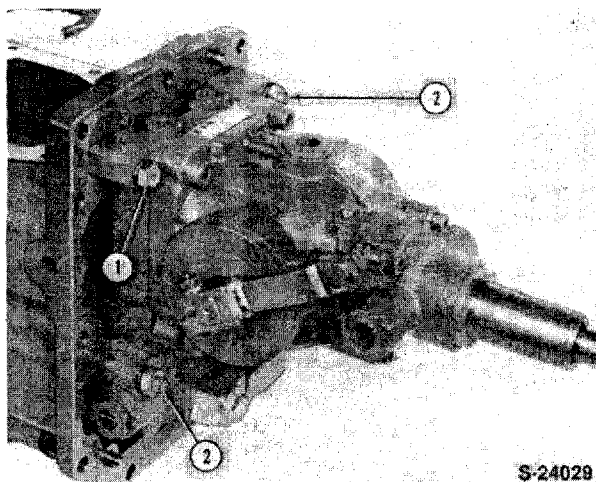

Figure 24
14. Remove the four HST mounting bolts and nuts, Figure 24, and remove the HST unit from the gearbox case.